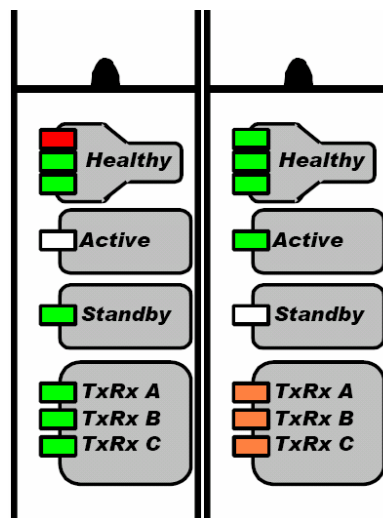

Figure 15-17: Replacement
- 3) Use the release key (but do *not* rotate the top and bottom levers open) on the faulty primary/active module. The replacement module should now become active, indicated by its *Active* LED being steady green and its *TxRx* LEDs blinking amber. The module in the primary position should now revert to standby operation, indicated by its *Standby* LED being steady green and its *TxRx* LEDs blinking green, as shown in Figure 15-17. (*Note: If the primary module has an actual fault, the swap will be automatic and the levers will not have to be operated to initiate the change-over.*)